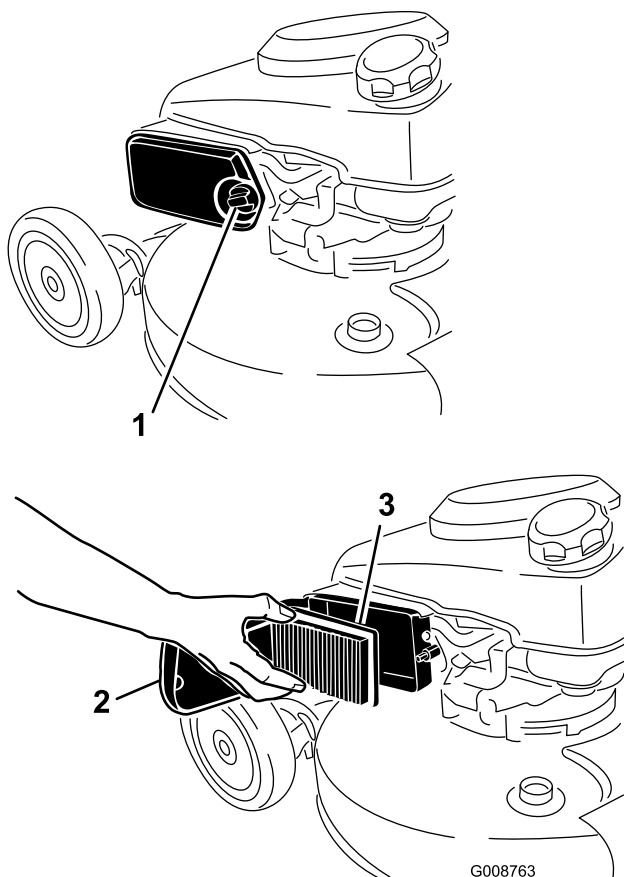

Figure 33
2. Unscrew and open the air cleaner cover (Figure 33).